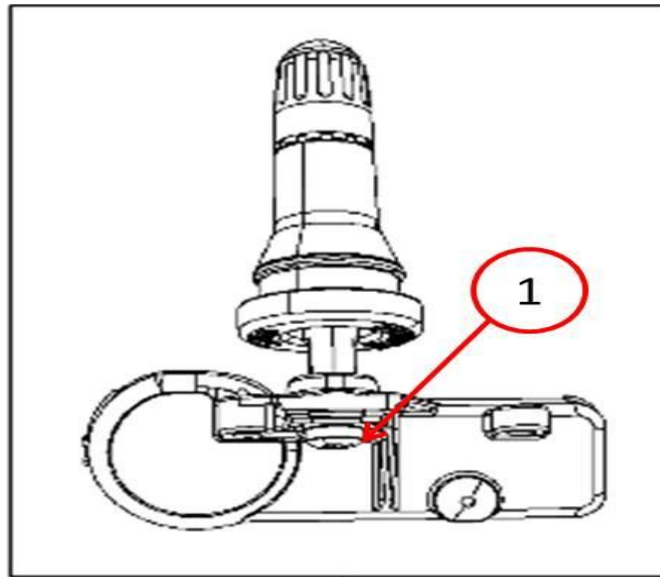

Fig. 1 Rubber Valve Stem
11. Attach a new sensor to the valve stem using a new retainer screw and tighten to 1.4 N·m (12 in. Lbs.) (Fig. 1).